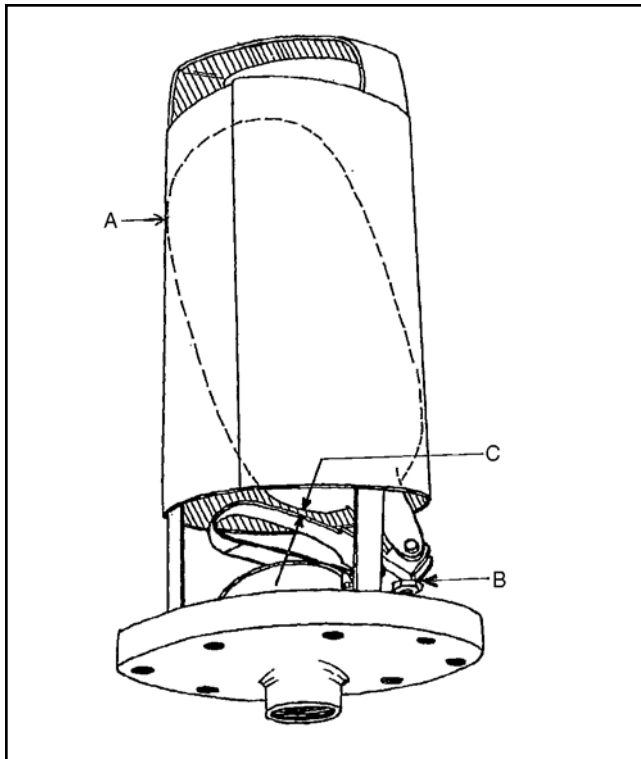

Figure 10
- With a fully assembled air eliminator head held upside down in a vertical position (reference Figure 10) and the float up against the float guard wall opposite the top stop (reference Figure 10-A), the rocker spring should be resting on the top stop (reference Figure 10-B), and the float should not hit the rocker spring (reference Figure 10-C). The top stop should be adjusted so that there is a clearance of $1/32''$ to $1/8''$ between the float and the rocker spring (reference Figure 10-C). This adjustment allows the valve to close and provides a positive top stop for the float.